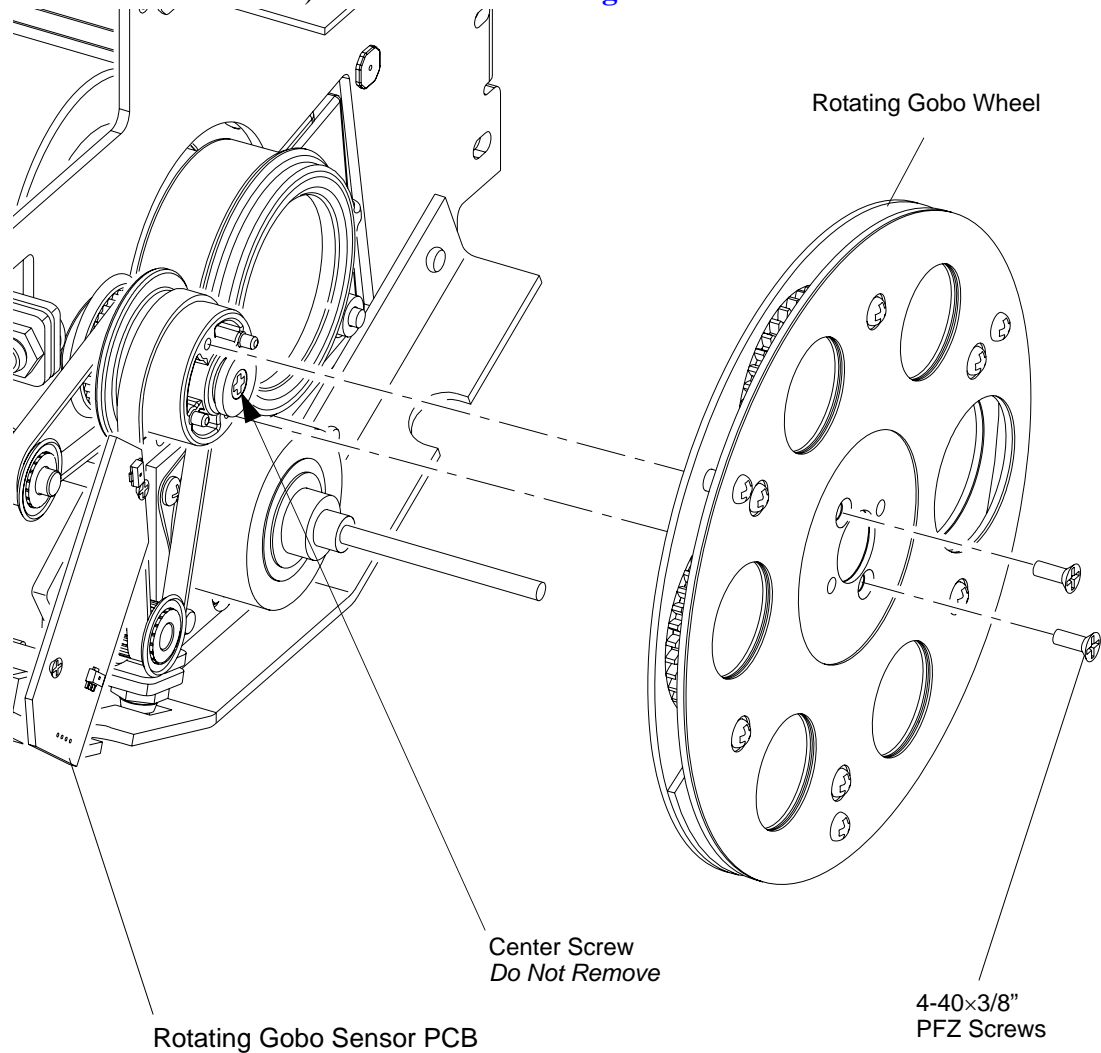

Figure 2-7: Rotating Gobo Wheel Removal
- Step 3. At rotating gobo wheel, remove two 4-40×3/8" PFZ screws (do not remove middle screw) and remove wheel. Figure 2-7.